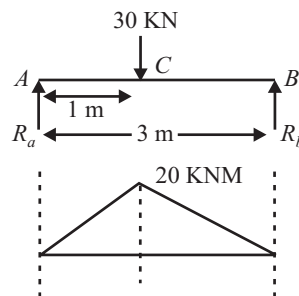

Fig. 17.11
Q. 26: A compound shaft 1.5m long fixed at one end is subjected to a torque of 15KN-m at the free end and of 20KNm at the Junction point as shown in fig 17.11. Determine